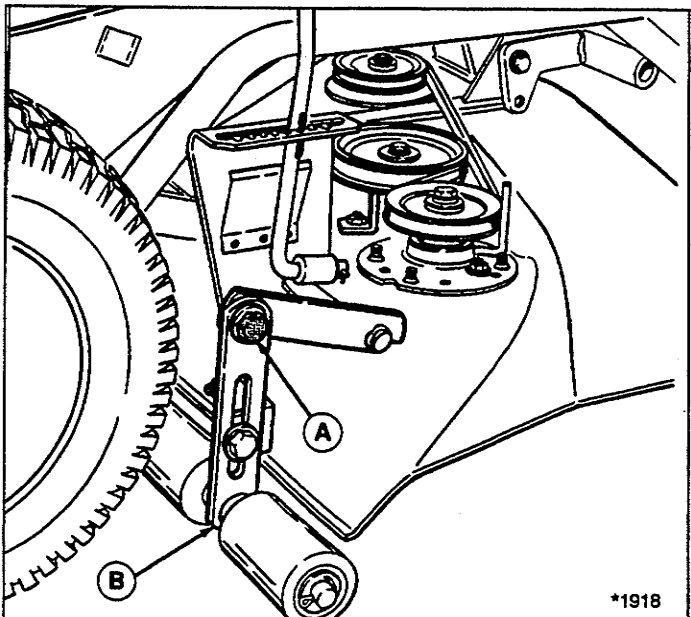

Figure 36. Leveling Mower Side-to-Side
5. See figure 36. Loosen the capscrew (A) on the right-hand side of mower roller bracket (B). Raise or lower right-hand side of mower as necessary, then tighten capscrew (A).